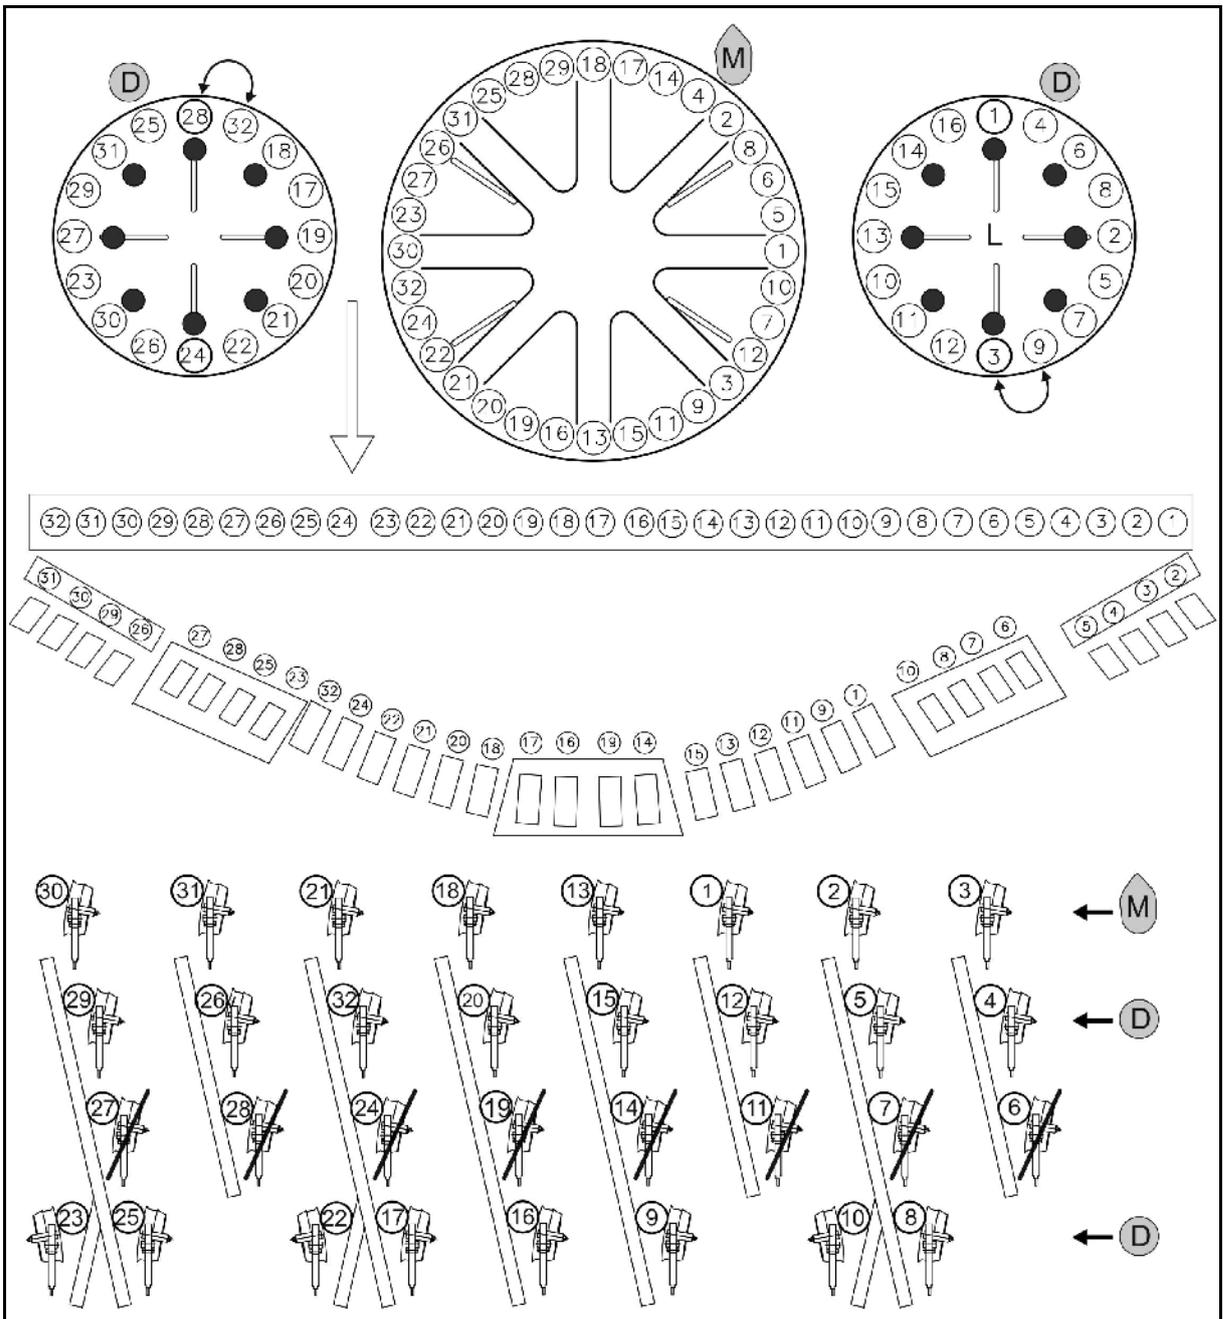

Fig. 49
- Maize ^M: Install the locking plates according to Fig. 49.
- Fertiliser ^D: Install the sealing plugs according to Fig. 49.